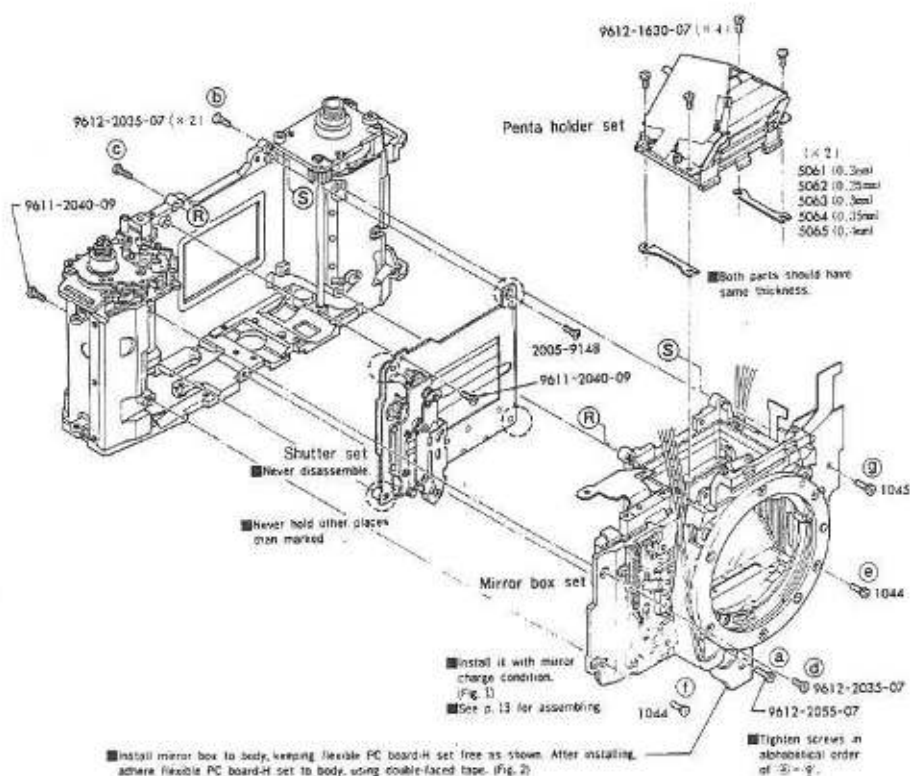

Fig. 1
1. Applying load forcibly by finger to sprocket, wind up strongly. In this state, turn eccentric pin to adjust mechanical timing so that 0313 engages by 1st tooth of reversing prevention lever-B → 0313 engages by 2nd tooth when removing finger from sprocket. (See Fig. 1.)
■ Fig. 1